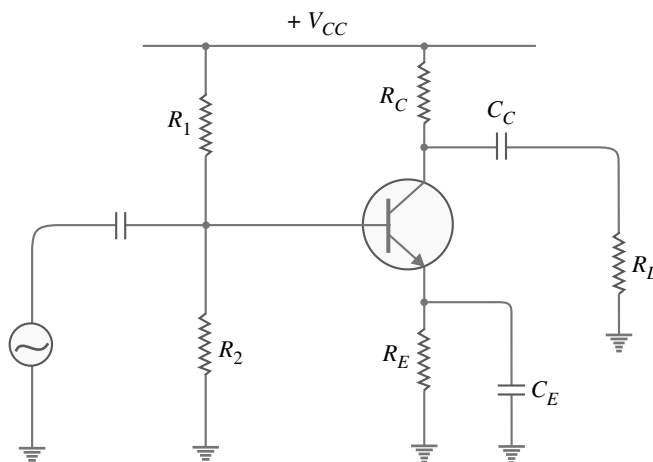

Fig. 8.60
3. Fig. 8.60 shows the transistor amplifier. If  $R_C = 4\ \text{k}\Omega$ ,  $R_E = 5\ \text{k}\Omega$  and  $V_{CC} = 30\ \text{V}$ , draw the d.c. load line.
4. Find the operating point for Fig. 8.60,  $V_{CC} = 30\ \text{V}$ ,  $R_1 = 20\ \text{k}\Omega$ ,  $R_2 = 20\ \text{k}\Omega$ ,  $R_C = 4\ \text{k}\Omega$ ,  $R_E = 5\ \text{k}\Omega$ . [13.2 V, 1.85 mA]
5. For the circuit shown in Fig. 8.60, find the voltage gain if  $\beta = 100$ ,  $R_C = 3\ \text{k}\Omega$ ,  $R_L = 6\ \text{k}\Omega$  and  $R_{in} = 2\ \text{k}\Omega$ . [100]
6. In the circuit shown in Fig. 8.60,  $V_{CC} = 30\ \text{V}$ ,  $R_1 = 2\ \text{k}\Omega$ ,  $R_2 = 1\ \text{k}\Omega$ ,  $R_C = 2\ \text{k}\Omega$ ,  $R_L = 2\ \text{k}\Omega$ ,  $R_E = 1\ \text{k}\Omega$ . Draw the d.c. and a.c. load lines.